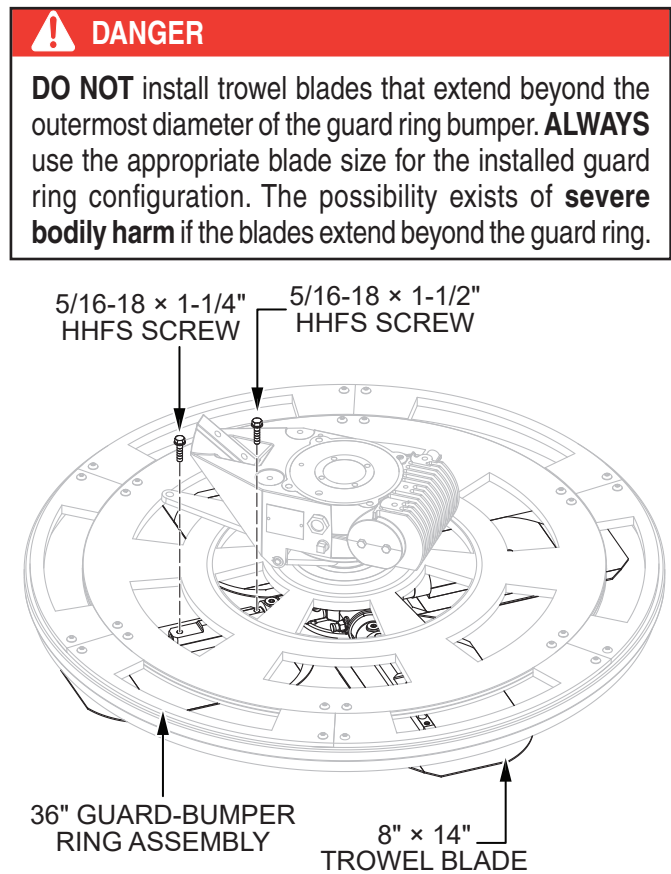

Figure 24. 14-Inch Trowel Blade Installation
5. Secure four 8" x 14" trowel blades to the spider assembly with four 5/16-18 x 1-1/4" HHFS screws and 5/16-18 x 1-1/2" HHFS screws (Figure 24).